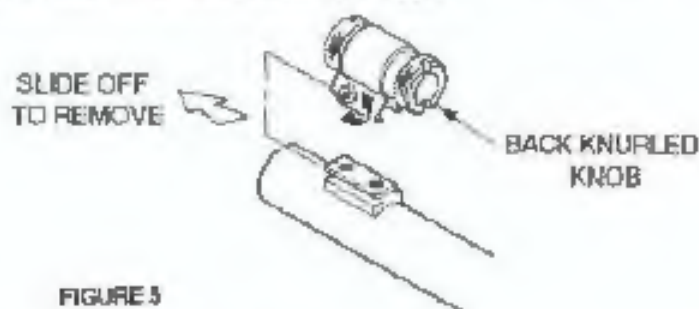

FIGURE 5
Removal of Front Sight: Loosen front sight (A-5003) screw with furnished 2.5mm hex key (A-5006) and slide off front sight base (A-4075). (See Figure 5) Note that the screw head is on the left side of the rifle.
6.2 Front Sight: The Kimber Model 82 Government rifle is equipped with a target front sight with ten interchangeable inserts. Seven of these are aperture type and three are post types. To install interchangeable insert, loosen jack knurled knob on sight. (See Figure 5) until slot in sight is clear. Place interchangeable insert in sight and tighten knob. (See Figure 11)